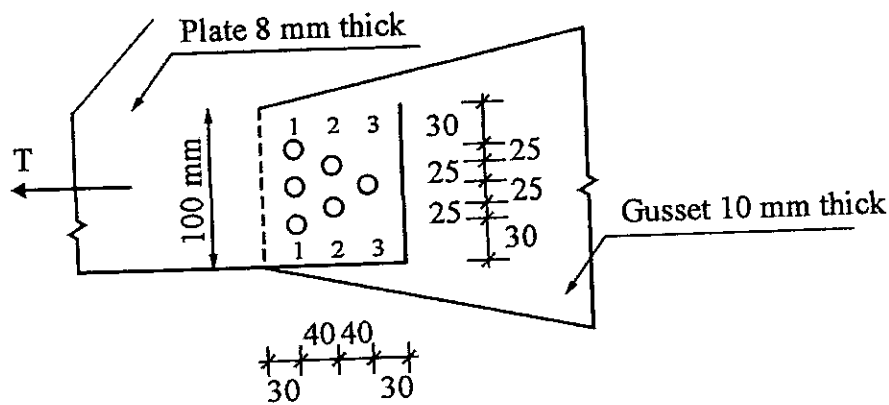

Fig. 7 (i)
7. (i) Determine the design tensile strength of plate (160 mm $\times$ 8 mm) connected to 10 mm thick gusset plate using 16 mm bolts as shown in Fig. 7(i). If the yield and ultimate stress of the steel are 250 MPa and 410 MPa respectively, for following case